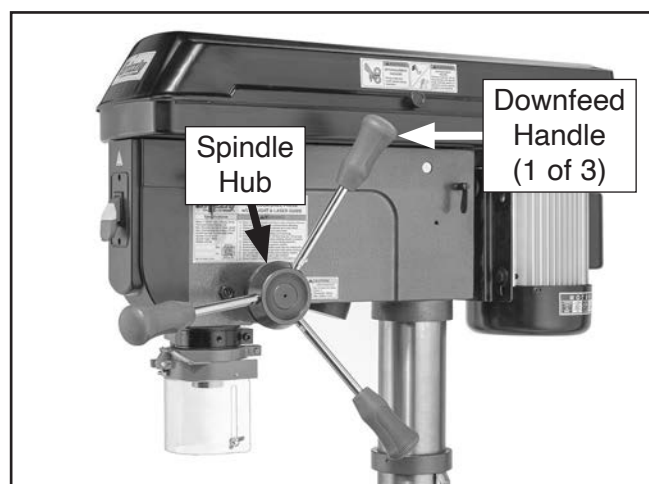

Figure 23. Downfeed handles installed.
12. Thread downfeed handles into spindle hub (see **Figure 23**).